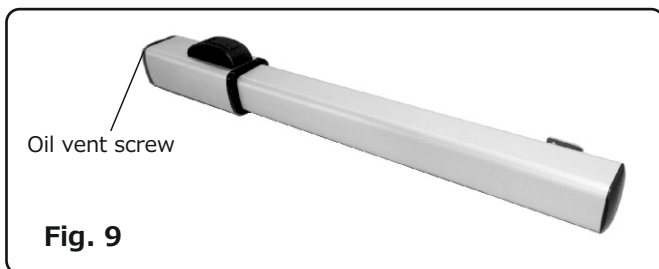

Fig. 9
- remove the vent screw (Fig. 9).